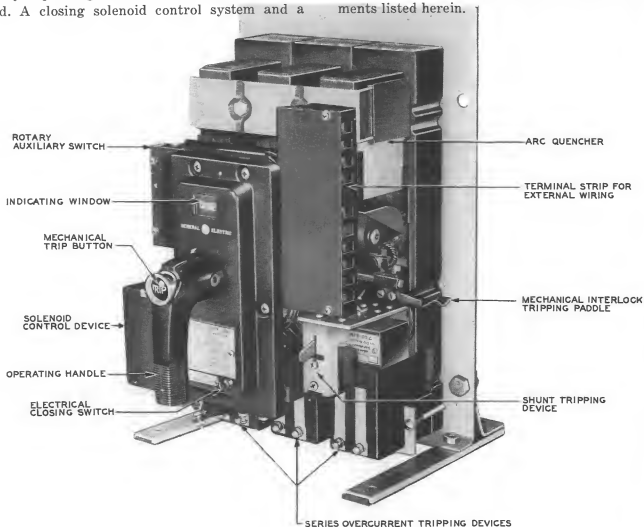

Fig. 1 - Breaker With Cover Removed
***#2.10 Closing Switch:** See Fig. 1 — Electrically operated breakers may be provided with a push button which, when depressed, should close the breaker.
2.11 Closing Solenoid and Control: See Fig. 1 — The closing solenoid and its control system may be actuated by the closing switch on the breaker or by a remote control switch, if provided. When actuated, the solenoid control system shall cause the closing solenoid to close the breaker promptly and, when closed, cause the closing solenoid to release.
2.12 Shunt Trip Device: See Fig. 1 — Check that this device trips the breaker open when the associated remote control switch is operated. For proper operation, an armature overtravel between 1/32 and 1/16 inch is required.
(2) To gain access to the main contacts, remove the front cover by unclasping the four fasteners on the case or loosen bolts at bottom and unhook cover. This will trip the breaker open. Remove the arc-quencher front clamp using a 7/16-inch open-end wrench to unscrew the two holding bolts. (See tops of Figs. 1 and 2.) Bend out the steel fingers of